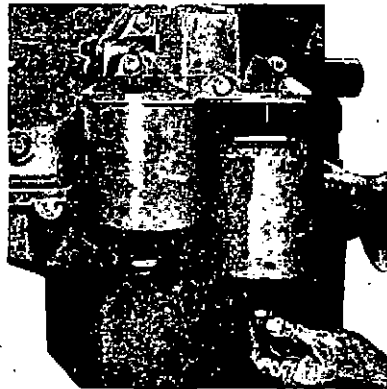

Fig. 11
- (c) Lower the filter bowls clear (see Fig. 11).